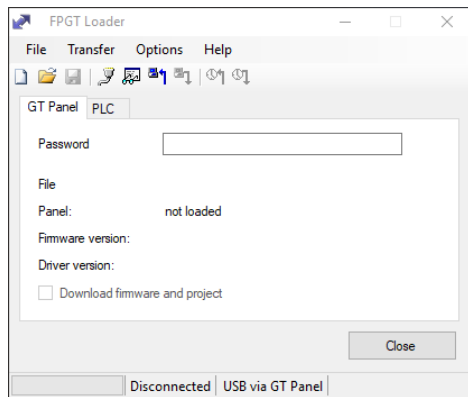

Figure 6
- 12) Click the GT Panel tab. (Figure 6)